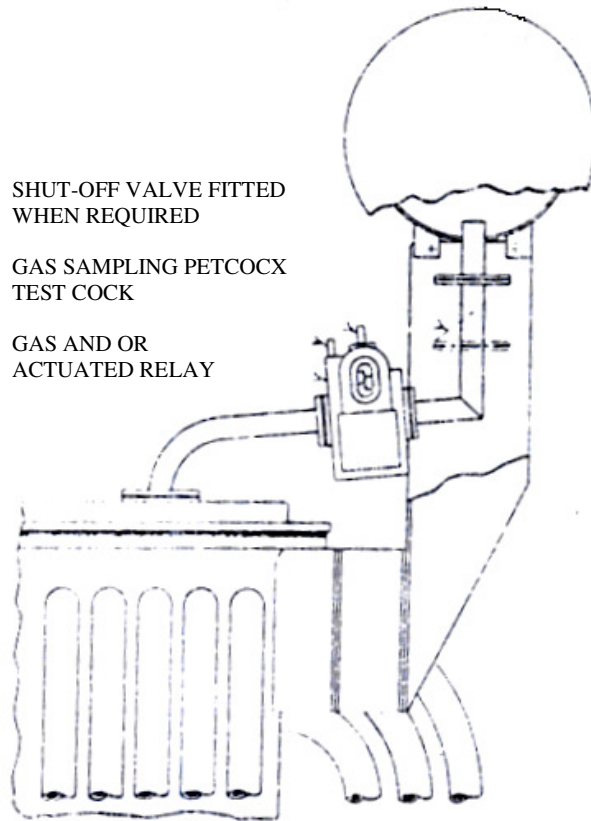

Fig. N3 Arrangement for mounting the gas and oil actuated relay (Buchholz's relay)
- b) For a serious fault within the transformer, the gas generation is more violent and the oil displaced by the gas bubbles flows through the connecting pipe to the conservator. This abnormal flow of oil causes the lower floats to be deflected thus actuating the contacts of the second mercury switch and completing the tripping circuit of the transformer circuit breaker, thus disconnecting the transformer from the supply. The arrangement for mounting the gas and oil actuated relay is shown in Fig N3.